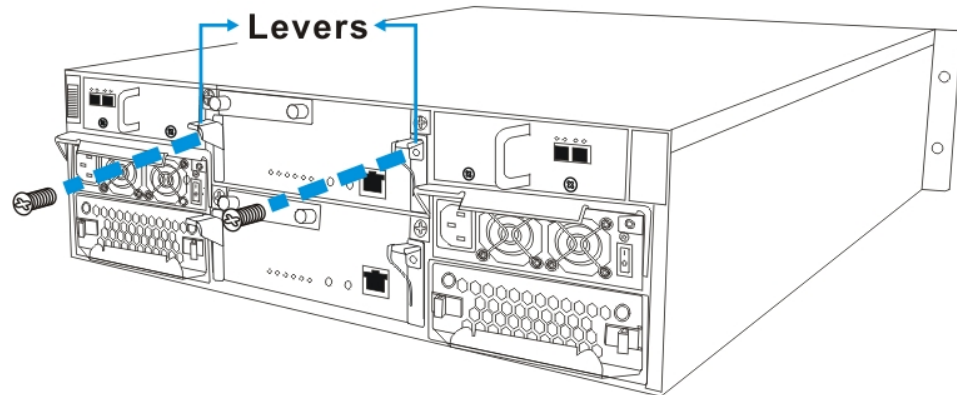

Fig. 2.1 Removing the Controller Module Screws
3. Remove the screws on the levers at the back of the controller module. (See Figure 2.1).